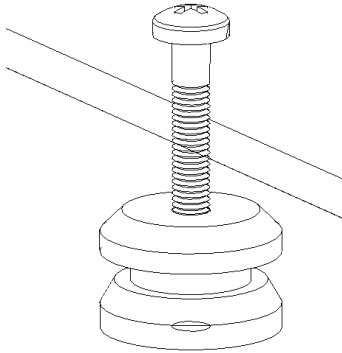
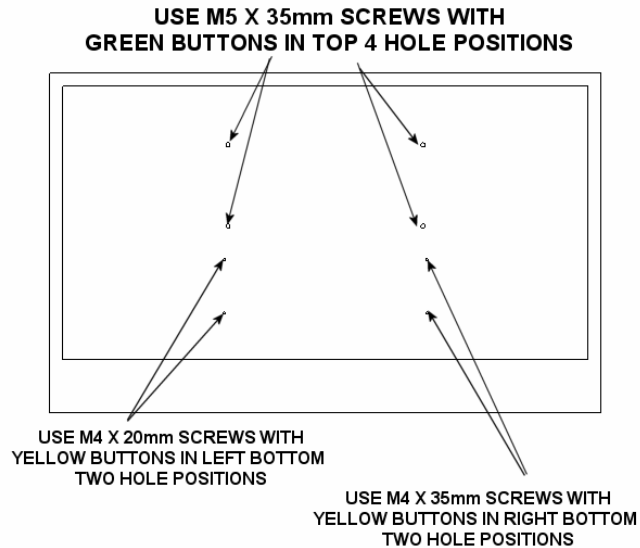

Figure 3
Figure 4
2. Attach mounting buttons to screen using the appropriate screw and button (see Figure 3 and Figure 4).